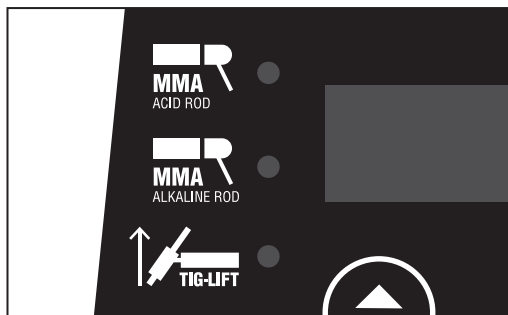

FIG. 2
8.1 WELDING TYPE SELECTION - SWITCH – FIG.2